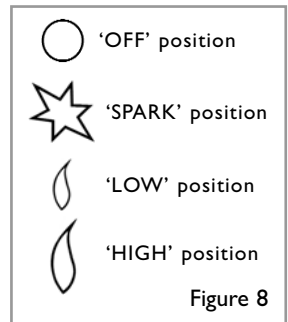

Figure 8
• **Meridiana and Merrion models** : The control knob is located on the lower right hand side of the outer case. It is of a spherical design and is marked as shown in figure 8.